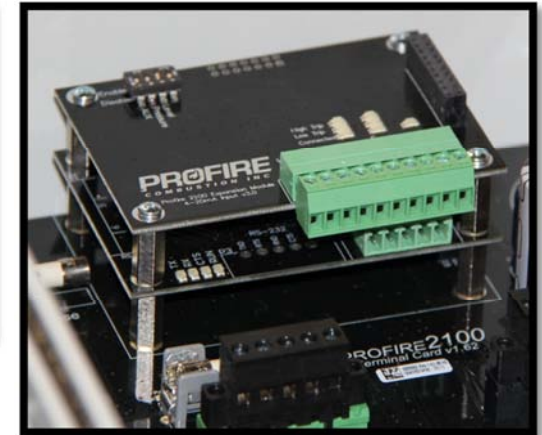

Figure 7
5. Carefully install the new 4-20mA Input Card on top of the existing expansion card such that the long pinned header on the 4-20mA Input Card mates with the socket on the old expansion card. Be careful not to bend any pins while doing this. Continue to apply pressure to the 4-20mA Input Card until the header is fully inserted. See Figure 7.
6. Finish attaching the new 4-20mA Input Card to the old expansion card using the 4 machine screws that were previously removed. Tighten to 4 in*lbs. See Figure 7.